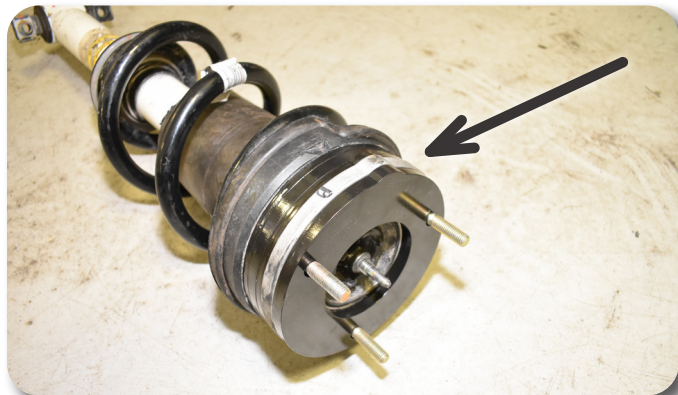

Figure 13
Verify the strut assembly looks like Figure 13 with the two preload spacers installed and the 3/8" top spacer.
17. Install the provided 3/8" top spacer on top of the upper strut mount **Figure 13**. The notch on the top spacer will line up with the notch on the upper strut mount.